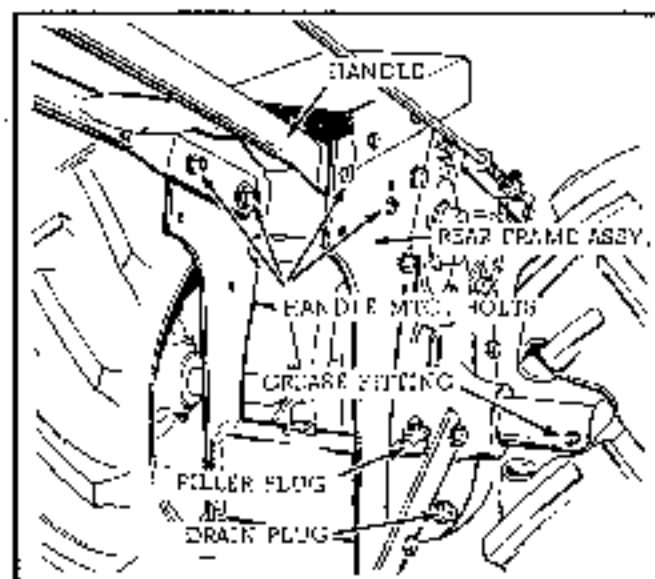

Fig. 1
1. The tractor handles attach to the rear frame assembly of the tractor as shown in figure 1. Place the tractor handles inside of the rear frame assembly, line up the holes in the tractor frame with the holes in the handle assembly and insert hex head capscrews. The two front capscrews are held in place with a flat washer, lockwasher, and hex nut. The rear capscrews are held in place with a lockwasher and hex nut. **NOTE:** the end holes of the handle assembly are slotted to allow for adjustment of handle height.
The transmission has a capacity of 2 1/2 quarts of SAE 90 oil, and is filled at the factory. It will not normally require replenishment, but occasionally check the drain plug for tightness and axle nuts for leakage. Keep oil up to level of filler plug. Remove vent plug from top of transmission and allow oil to settle to normal level before checking. See figure 1.
The right hand axle tube has 1 grease fitting which should receive general purpose automotive type grease periodically. Use a standard grease gun and be sure to clean the grease fitting before applying grease. See figure 1.